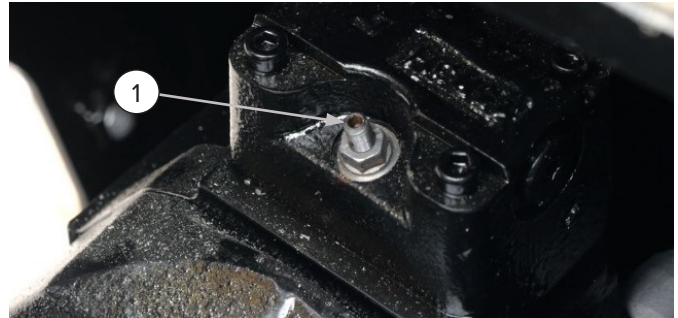

Figure 11
2. Remove the top cover plate at the top of the mulcher and the cap off of the adjustment screw on top of the motor. See **Figure 11**, Item 1.